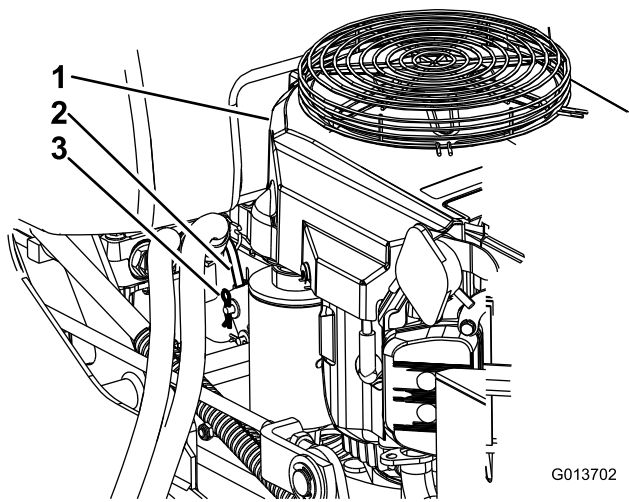

Figure 1
2. From behind the engine, remove the hairpin cotter pin from the existing control linkage and front bracket (Figure 1).